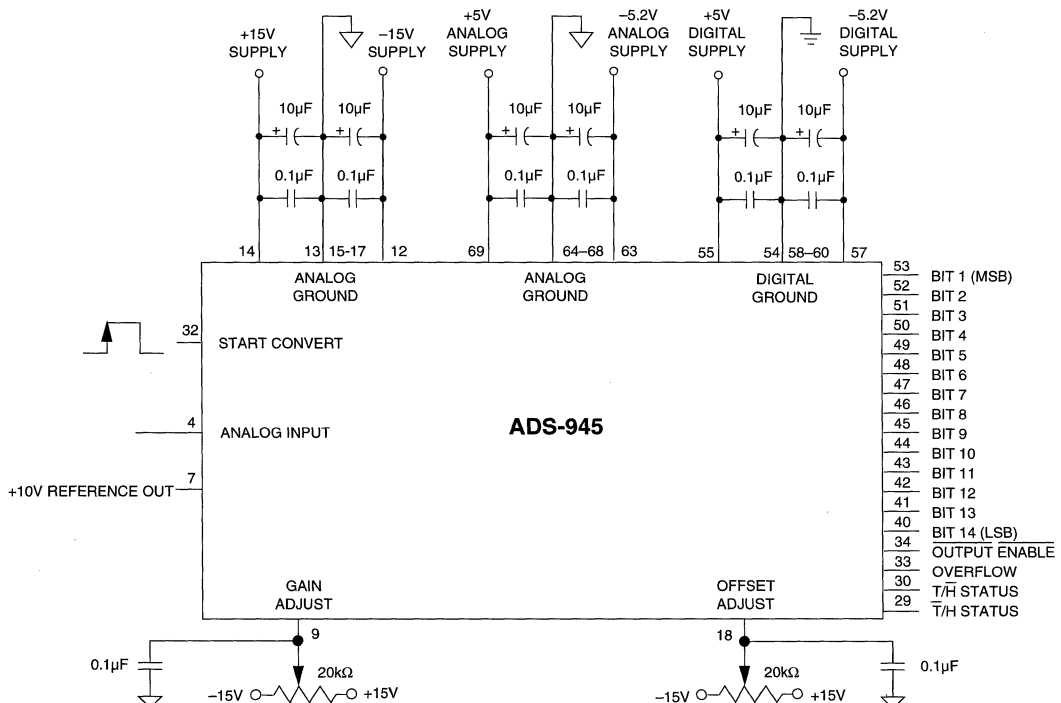

Figure 2. ADS-945 Connection Diagram
2. The ADS-945 achieves its specified accuracies without the need for external calibration. If required, the device's small initial offset and gain errors can be reduced to zero using the adjustment circuitry shown in Figure 2. The typical adjustment range is ±0.2%FSR for this circuitry.
(Refer to Figure 2 and Table 1)
Any offset and/or gain calibration procedures should not be implemented until devices are fully warmed up. To avoid interaction, offset must be adjusted before gain. The ranges of adjustment for the circuit in Figure 2 are guaranteed to compensate for the ADS-945's initial accuracy errors and may not be able to compensate for additional system errors.